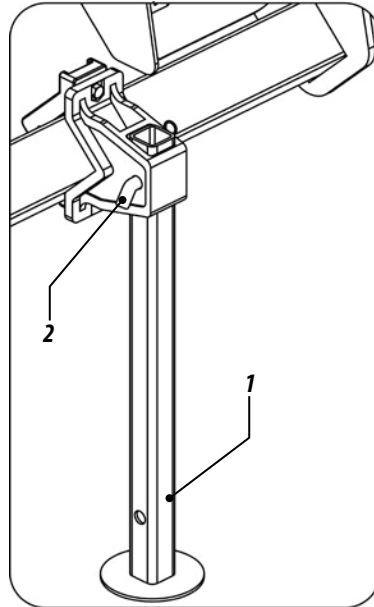

Figure 15
- 2- Place the support bracket (1) with the locking pin (3). Figure 15.